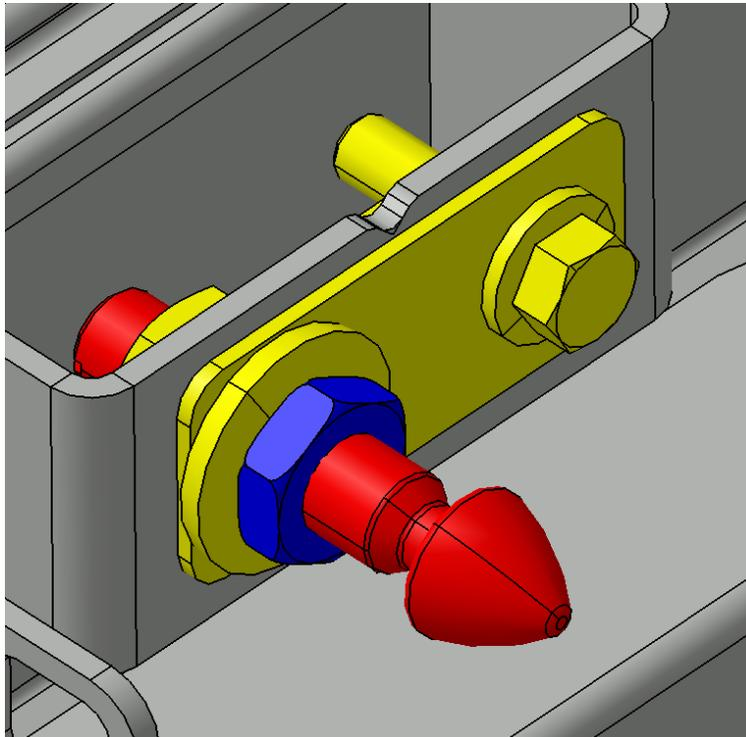

FIGURE 16
15. Use the pin to adjust the door so it is even with the adjacent steel sheet. Screw or unscrew the pin as required and then apply final tightening to the jam nut (FIGURE 16).